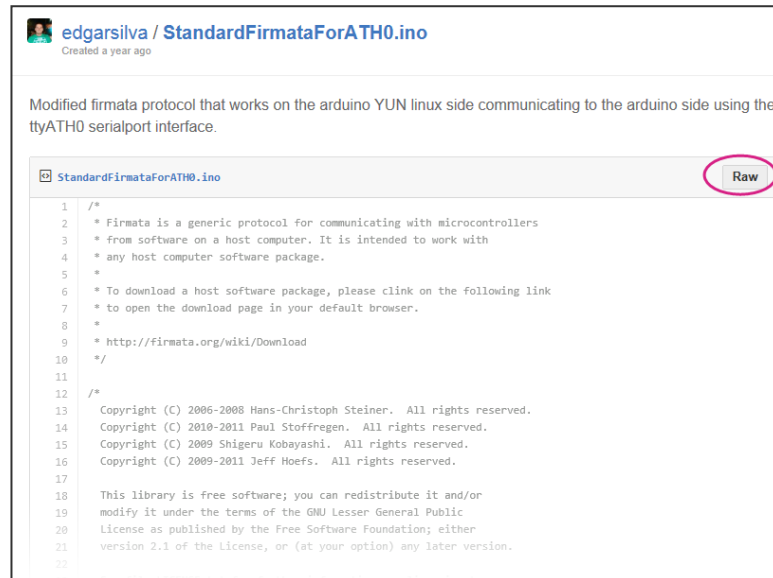

Figure 58 Copying example code from Github
- Copy the Firmata example to Arduino, you do this by opening a browser and click here. You'll see a Firmata example code. Click on **Raw** button to copy the code, as shown in Figure 58 below.
- 2) Copy the Firmata example, you do this by opening a browser and click here. You'll see a Firmata example code. Click on **Raw** button to copy the code, similar to Figure 58.